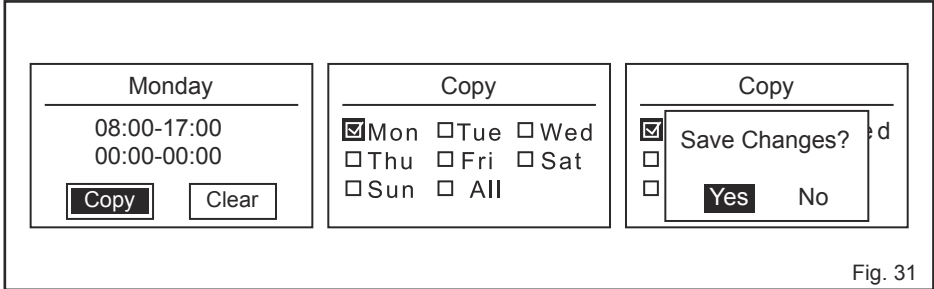

Fig. 31
- Turn the Dial to select Copy, and then press the Dial to enter the Copy page (Fig. 31).
- Press the back button, select Yes and press the Dial to confirm changes (Fig. 31).